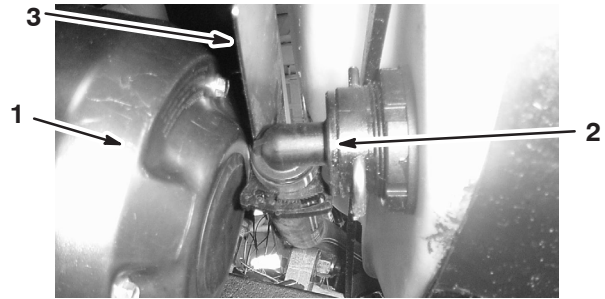

Figure 55
3. Disconnect the hose located on the lower-front face of the tank (Fig. 55).
Note: You may need to push the heat shield (Fig. 55) back as you remove the cover.
- Connect the hose on the front of the tank (Fig. 55).